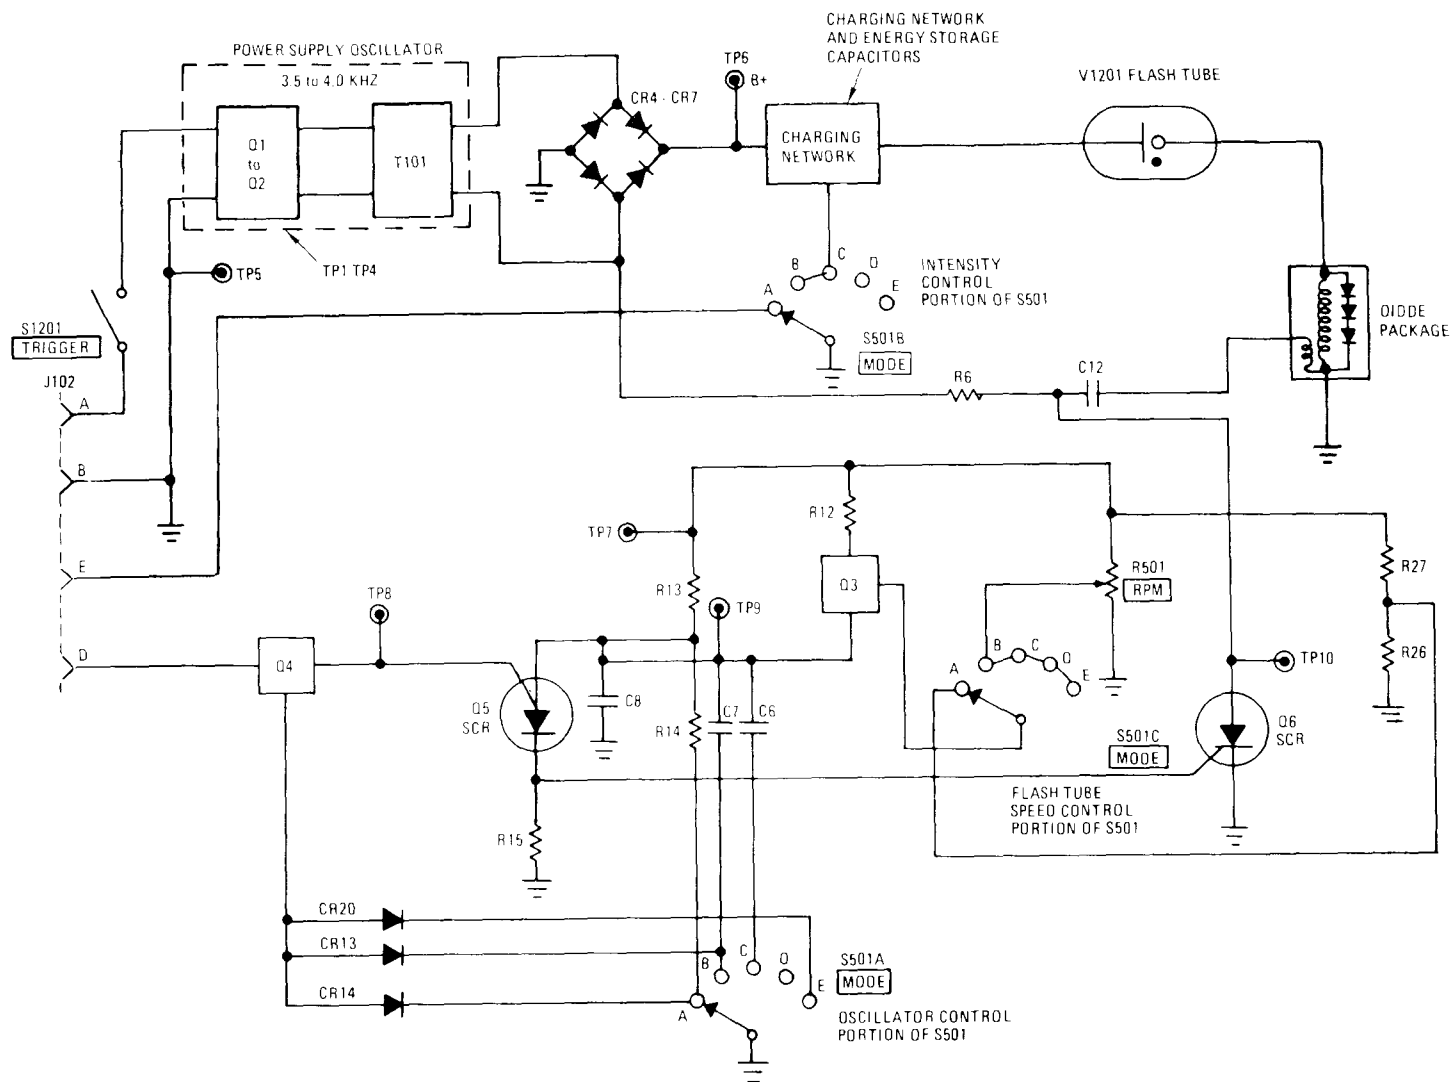

Figure 4-3. Strobex Simplified Diagram
a. The Strobex (fig. 4-3 and FO-3) contains a point source, high intensity flash tube (VI201) fired by an oscillator operating in one of three modes: slave, locking, or free-running. As a slave oscillator, it is triggered by Accelerometer or Magnetic Pickup signals. As a locking oscillator, the frequency is set to a certain repetition rate and is synchronized by a one-per-revolution signal from a Magnetic Pickup. As a free-running oscillator, the frequency is set by a potentiometer calibrated in RPM. The oscillator is comprised of transistors Q3 and Q4, programmable unijunction transistor Q5, and SCR Q6 located on Blade Tracker Circuit Card C3984.
b. The oscillator is operated in one of five modes of operation controlled by MODE switch S501B and S501C. The following paragraphs (1) through (5), explain each of the five modes of operation: